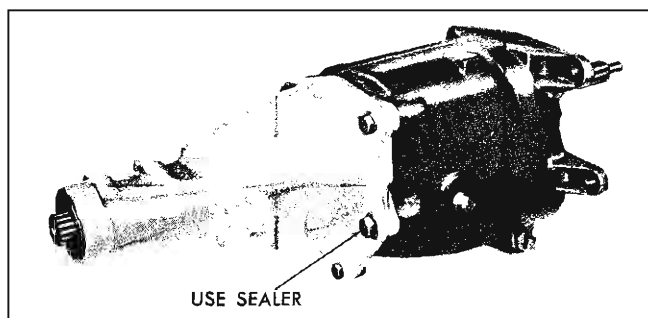

Fig. 7B-33 Sealing Lower Right Attaching Bolt
20. Install three extension and retainer to case attaching bolts (torque 35-45 lb. ft.) and two extension to retainer attaching bolts (torque 20-30 lb. ft.). Use suitable sealer on the lower right attaching bolt as viewed from rear (Fig. 7B-33).